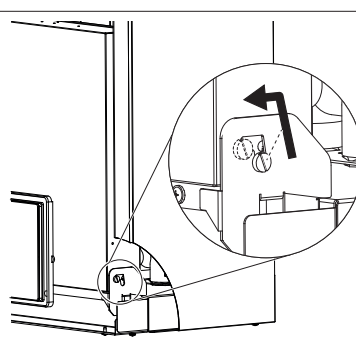

fig. 18 - how to release the electric box
- grip the box and release it (fig. 18)